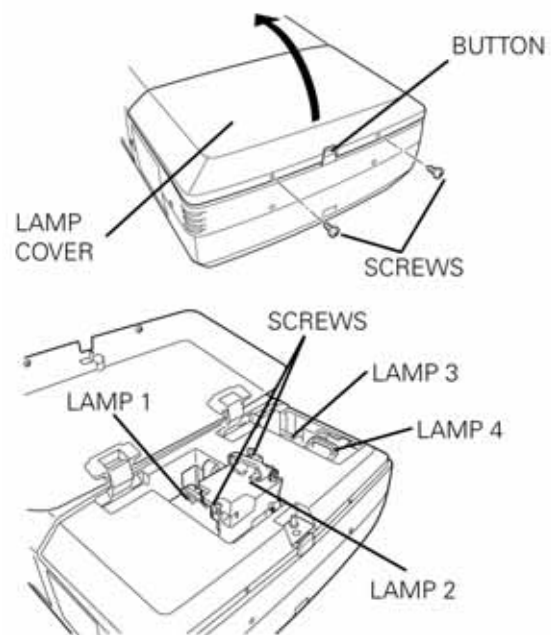

Figure 1 Lamp Replacement
3. Remove the two screws on the Lamp Cover and press the button to open the Lamp Cover (see Figure 1).